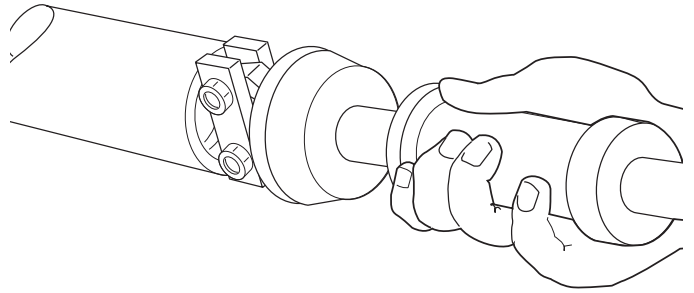

Fig. 7 Oil Seal Removal
5. Remove the oil seal using a seal puller (Ref Fig. 7).